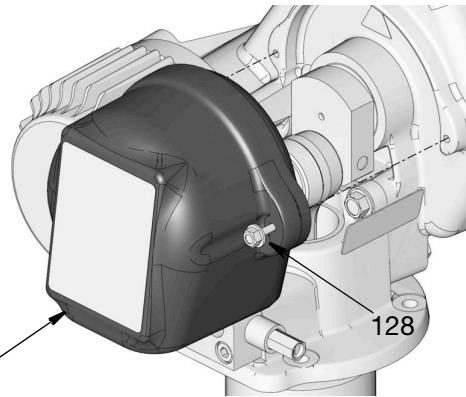

FIG. 5
2. Loosen the bolts (128) and remove the cover (126) from Dyna-Star pump (FIG. 5).